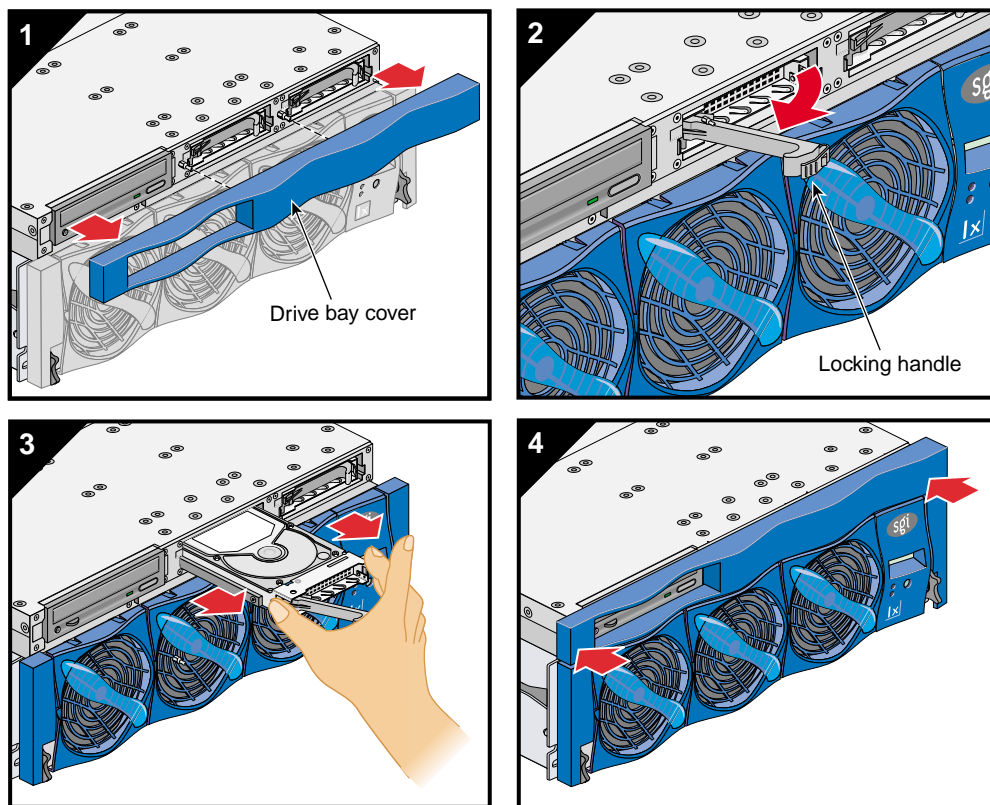

Figure 12-12 Removing a SCSI Disk Drive
To remove a SCSI disk drive, follow these steps (see Figure 12-12):
1. Remove the drive bay cover to access the two SCSI disk drive bays, as shown in panel 1 of Figure 12-12.